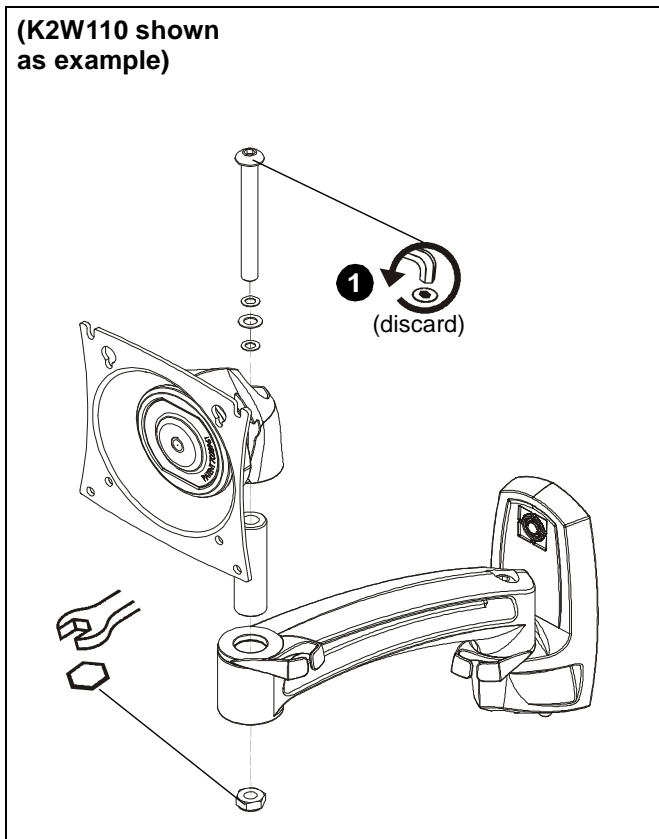

Figure 1
1. Remove button head cap screw, spacers, pivot pin and lock nut to disassemble head from K2 mounting arm. All hardware may be discarded. (See Figure 1)